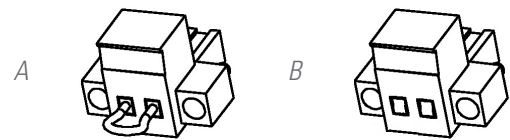

Fig. 19. Connector for the external EPO.
- ☐ Or by removing the own female connector from the equipment, because this connector includes a cable as a bridge mode, which closes the electrical circuit [see Fig. 19-A].
- ☐ Or when pressing the external button, which belongs to the end-user and it is installed between the terminals of the connector [see Fig. 19-B]. The connection of the button will be normally closed -NC-, so it will open the electrical circuit when pressing it.